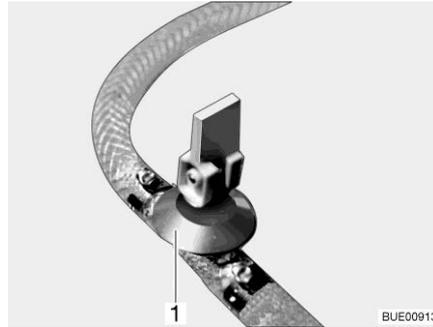
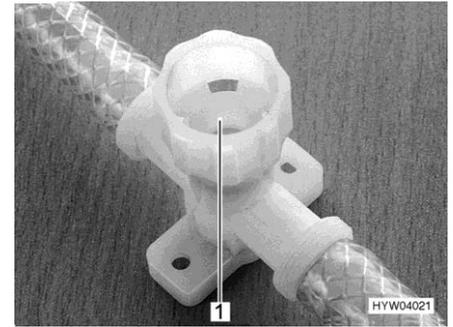

Fig. 259 Drain cock (with rocking lever)
Fig. 260 Drain cock (with twist cap)
- Open all drain cocks. To do this, position the drain cock's rocking lever (Fig. 259,1) vertically or turn the drain cock's cap (Fig. 260,1) in an anti-clockwise direction.